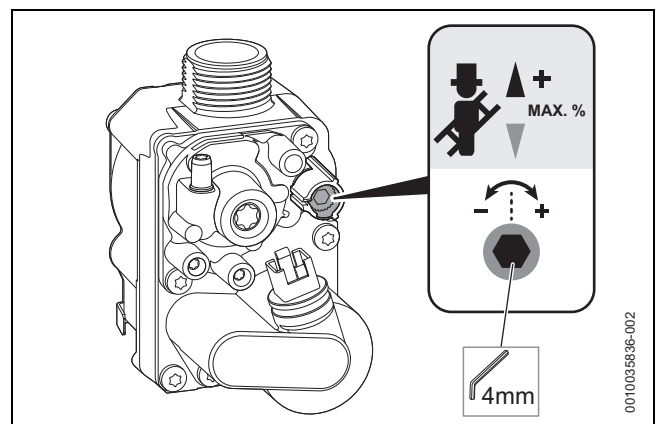

Fig. 83 Setting the CO2 content
- ▶ Insert the hex tool into the adjusting screw of the gas valve (as shown in the below Figure 83) and set the CO2 content for maximum rated output.